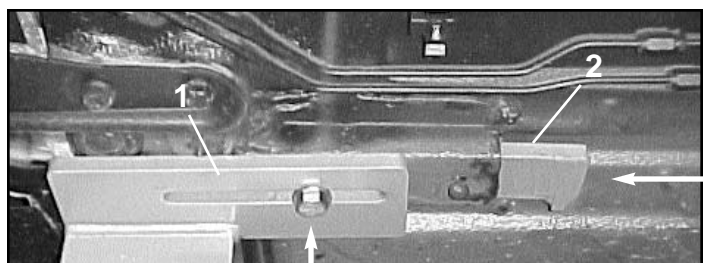

Figure 5
3. Slide inside rail base into vehicle's subrail as shown at far right of Figure 5. Then secure the inside rail base to the front adapter plate using 12mm bolt and 1/2 ASTM washer. Bolt extends upward through slot in adapter plate and hole in subrail and threads directly into hole in support bar.
1. At right rear corner of center section, install anchoring components as shown in Figure 5. When installing components follow these steps: